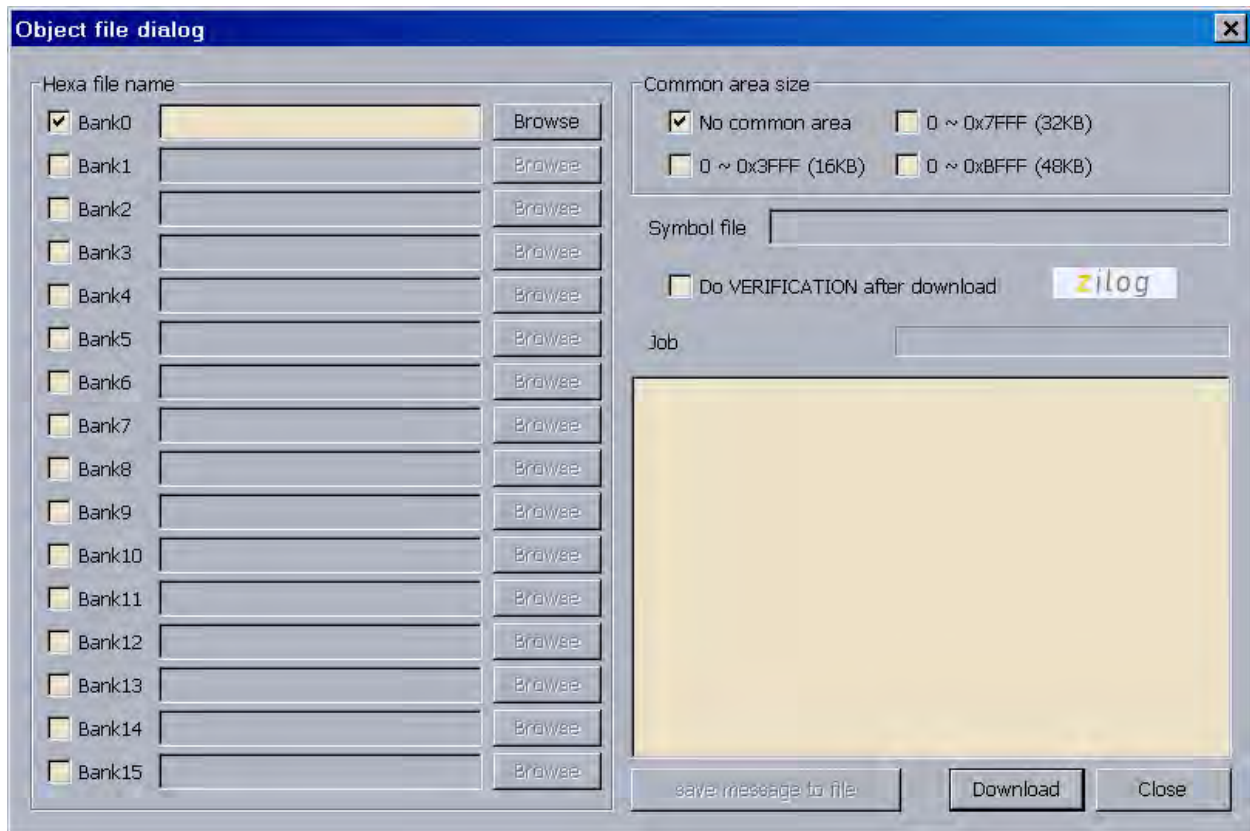

Figure 11. Object File Dialog
5. In the Debugger window, select **Load Hex** from the **File** menu to display the Object File dialog, which is shown in Figure 11.